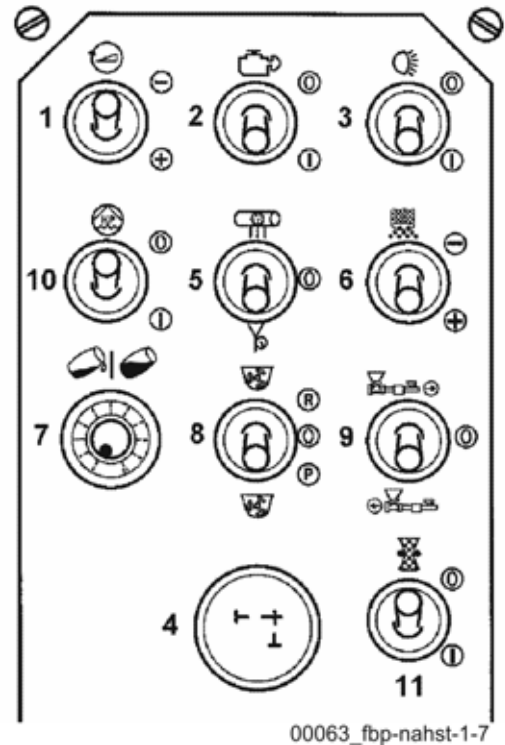

Fig. 583 Local control unit for a truck mixer pump
1 For truck mixer concrete pumps (FBP) as of series 02, a selector switch (11) on the local control unit (**Fig. 583**) serves the same purpose.